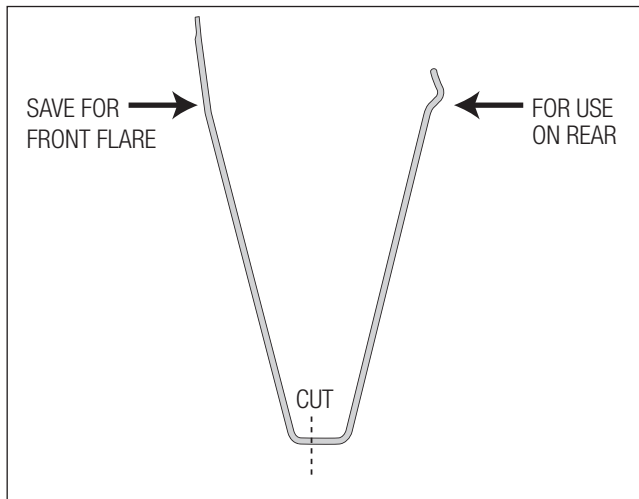

Figure 7
- A. Cut the stock support rod as shown (fig. 7). Threaded hole will be used.